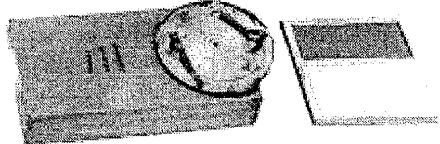

Fig. 4 Retrofitted microscope, turntable and Thoma plate.
**THE MICROSCOPE.** The microscope shown in Fig. 4 can be used as either a single lens dissecting, or a compound microscope. The microscope used here is identified as a 'C&D Minimike,' made in England. Of extremely rugged construction, the base, tiltable arm and body are made of die cast zinc alloy, the rest being made of aluminum. Coarse focusing is facilitated by means of a tension adjustable friction drive. The draw tube allows for a magnification ranging from 100X to 200X. The microscope has a lens system of high quality.
**THE DISSECTING STAGE RETROFIT.** The body assembly of the microscope is removable as a unit from the split retaining sleeve attached to the top of the arm. A massively mounted double convex lens of 1.5" focal length also fits into the bracket and serves as a 3x dissecting lens. A ball mounted plane mirror is attached to the post portion of the 'horseshoe' foot to provide illumination from below. To enable the instrument to function as a dissecting microscope, it was necessary to retrofit the stand by adding hand rests and a dissecting stage assembly. The two opposite hand rests, 3" w x 6" long x 0.19" thick are made of mahogany and are attached to pegs located on the upper side edges of the dissecting stage assembly. The latter slips over the microscope stage and is secured thereto by a pair of knurled screws assembled to the mahogany bottom plate of the dissecting stage assembly. The upper plate of the assembly is made of 0.093" thick glass frosted on the bottom side and held in place by three brass strips, 0.375" which are secured to the wood portion of the stage using flat head brass wood screws. See Figs. 4 and 5.